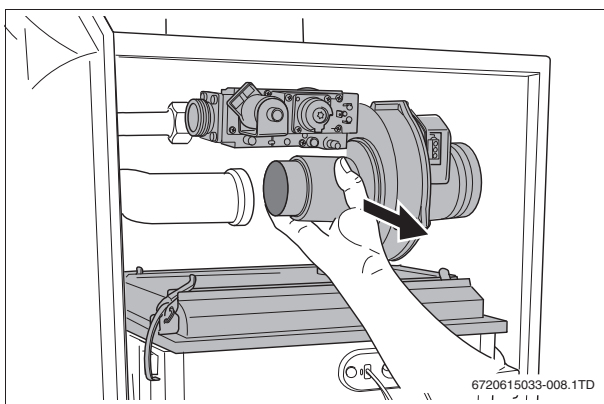

Fig. 7 Removing the burner cover with the gas/air unit
- Remove the burner cover together with the fan unit and the gas valve (→ fig. 7).